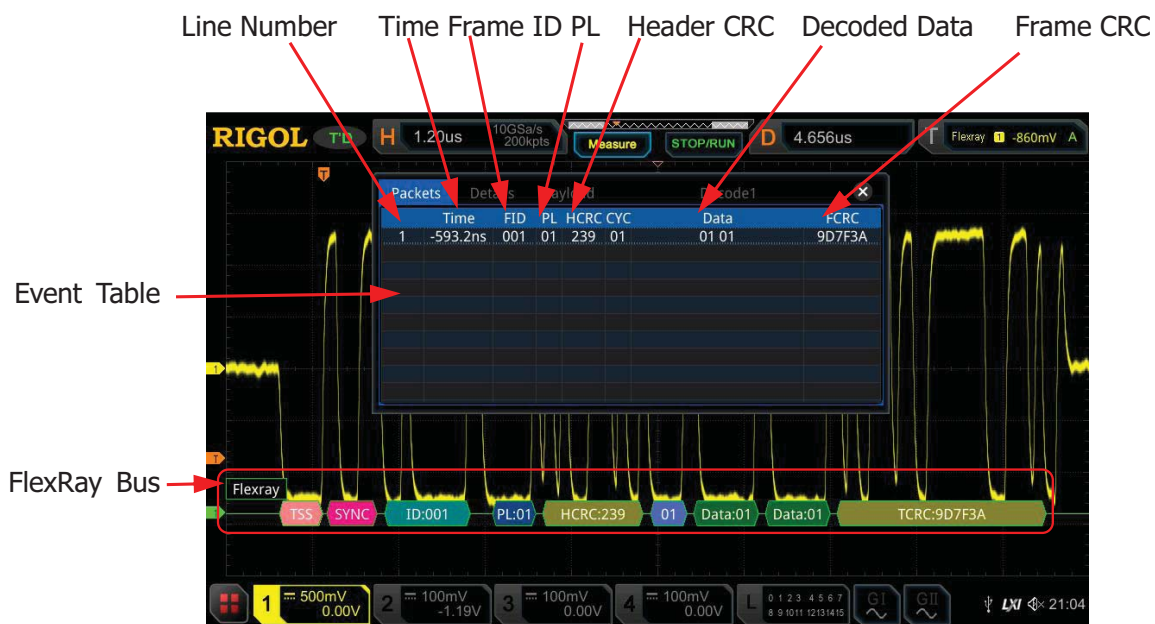

Figure 11-13 FlexRay Decoding Event Table
- Open or close the event table: Press **Event Table** continuously to enable or disable the event table. When you enable the event table, the following figure is displayed, as shown in Figure 11-13. You can also enable the touch screen to tap the icon  at the upper-right corner of the table to close the event table. Besides, when the operating status is "STOP", you can also rotate the multifunction knob  to select a specified line and view the corresponding decoding information.